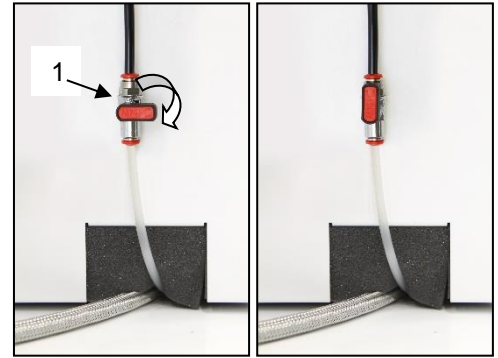

Fig. 10
Compressor shut-down for service or any other reason is performed at the pressure switch (1) by turning the alternation switch (2) to the “0” position and **pulling the mains plug from the socket**. This disconnects the compressor from power supply. Then open the drain valve (Fig. 10) to decrease the pressure in the air tank to zero.
Compressors (Fig. 10)
If the compressor will not be used for a prolonged time period, drain all condensate from the air tank. Then turn on the compressor for 10 minutes, keeping the drain valve open (1) (Fig. 10). Switch off the compressor using the switch (2) at the pressure switch (1) (Fig. 9), close the drain valve and disconnect the device from the mains.
- Release air pressure in the pressure tank by opening the drain valve (1) (Fig. 10).